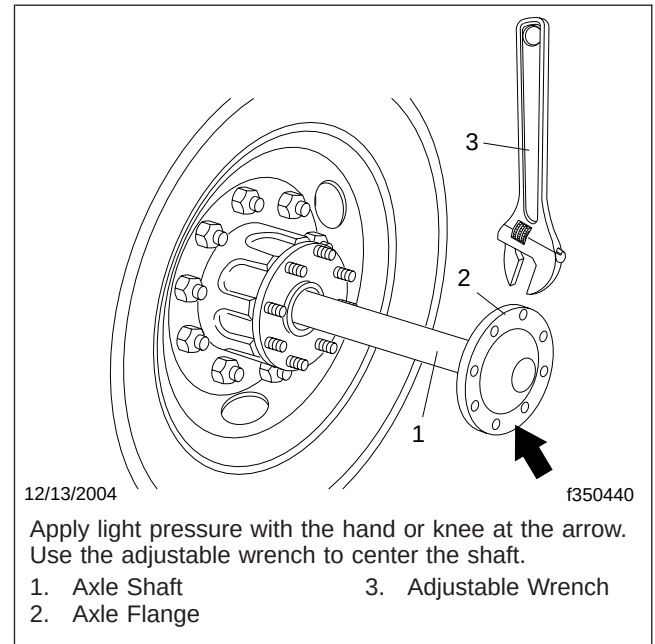

Fig. 1, Installing the Axle Shaft
3. Install the axle shaft, as follows. See **Fig. 1**.
For forward-rear axle components of a tandem installation, see Fig. 1.